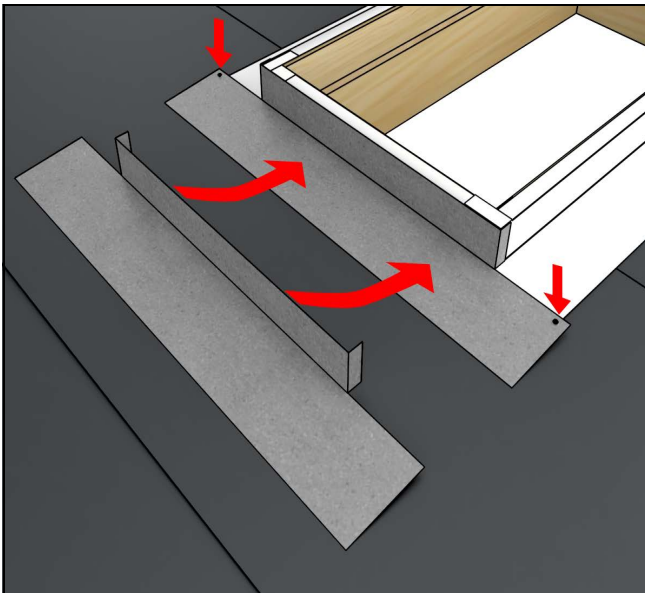

Figure 35
7. Place sill saddle centered on frame and bend over tabs. See Figure 35.